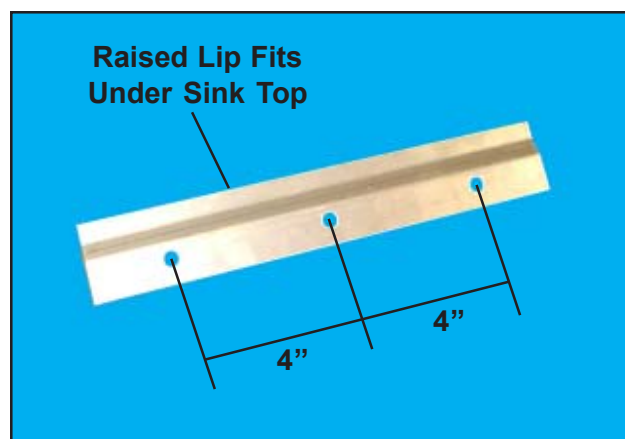

Figure 5. Top bracket
5. Hold it in place, make sure it is level, and mark the centers of the three mounting holes on the wall (Figure 5).